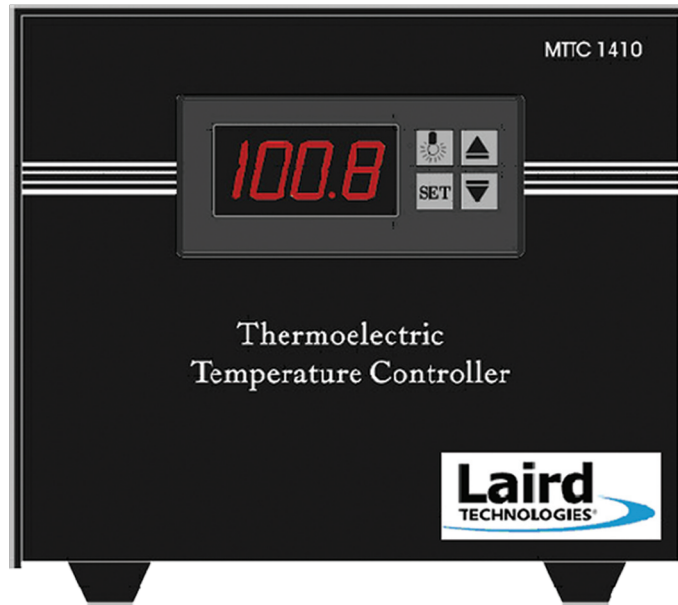

Figure 2 - Front Panel
4. At the user interface in the front (Figures 2 & 3), adjust the setpoint and, if desired, the tuning parameters or calibration offset (see the Controller Adjustment section on the next pages for specific instructions).